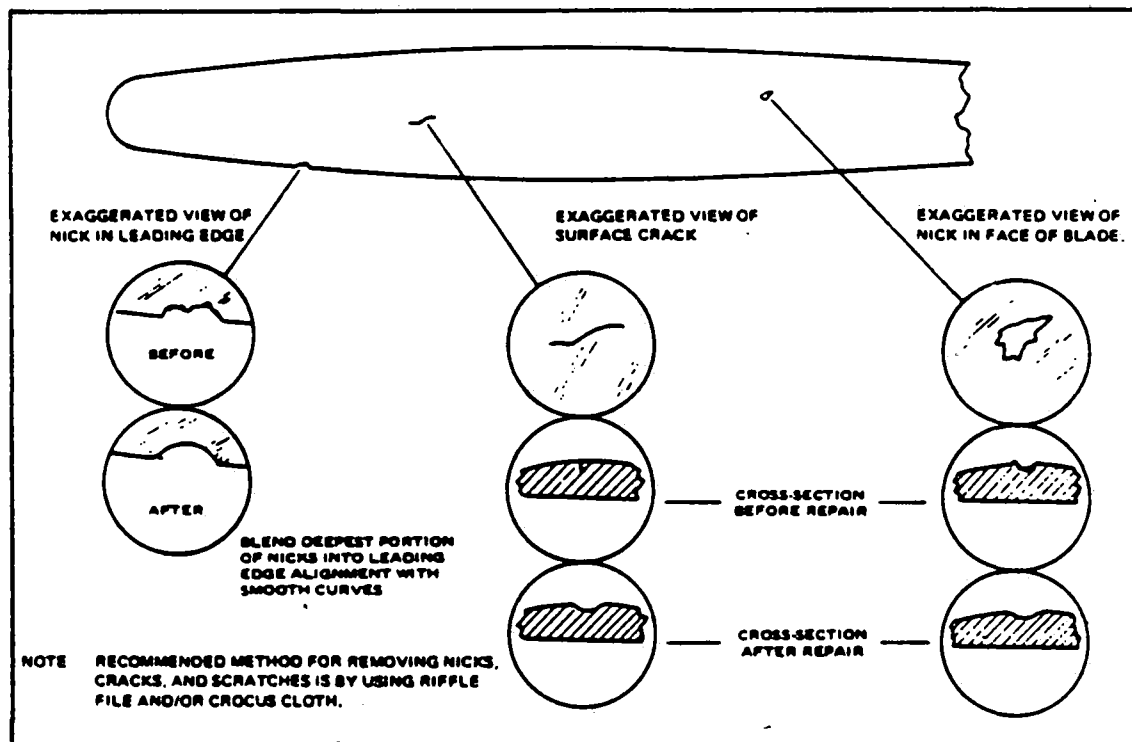

Figure 8A-3. Typical Nicks and Removal Methods
- g. Inspect blades for damage or cracks. Nicks in leading edges of blades should be filed out and all edges rounded, as cracks sometimes start from such places. Use fine emery cloth for finishing. Refer to Figure 8A-3 for propeller blade care.
8A-11. INSTALLATION OF PROPELLER. (Refer to Figure 8A-2.)